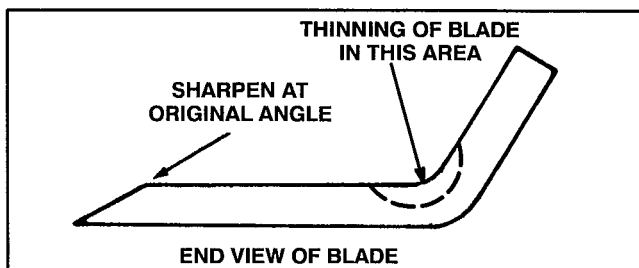

Figure 22
5. Using a file, sharpen cutting edge at both ends of the blade (Fig. 22).
Check cutter blade every time cutting unit is removed. If blade bolt holding blade is loose, tighten it to 45-60 ft-lb (61-81 N·m). If blade or sail (Fig. 22) at end of blade is worn, eroded or cracked, replace the blade. Replace the blade if it is bent or out-of-balance. Always use a genuine TORO replacement blade to ensure safety and best performance. NEVER USE A WILL-FIT REPLACEMENT BLADE.